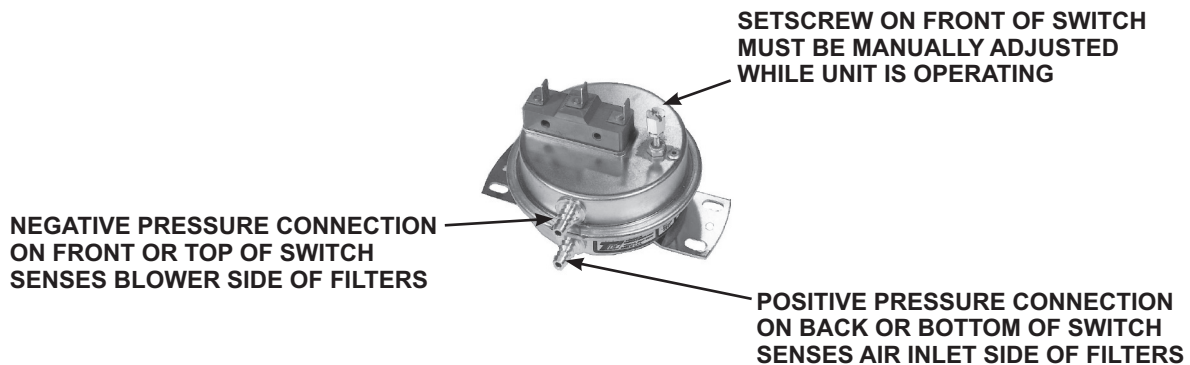

Figure 40. Dirty Filter Switch
1. With clean filters in place, blower doors closed, and blower operating, decrease pressure setting by adjusting setscrew on switch (see Figure 40) clockwise until indicator light is energized or setscrew is bottomed out.